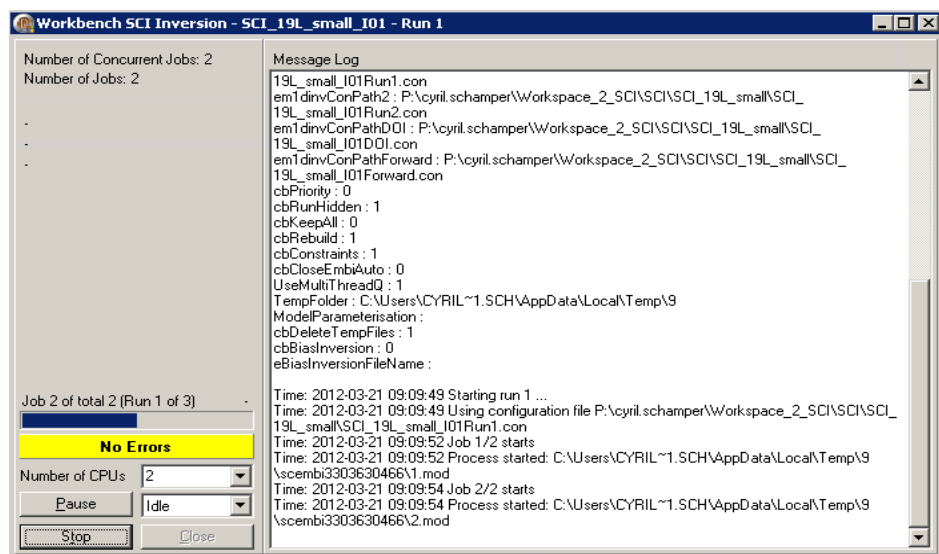

Figure 4.1 The program SCEMBI which controls the SCI inversions.
10. Then click on **Finish**. After loading the sections a new window, in fact a new program called SCEMBI should start (cf. Figure 4.1).